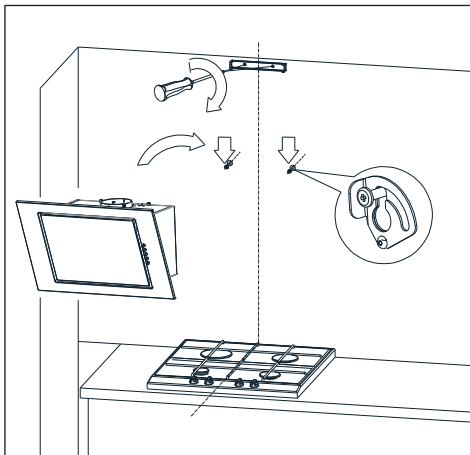

Fig.6 Hood hanging
3. Screw the chimney body fastening element, hang the hood on two untightened screws (Fig. 6).